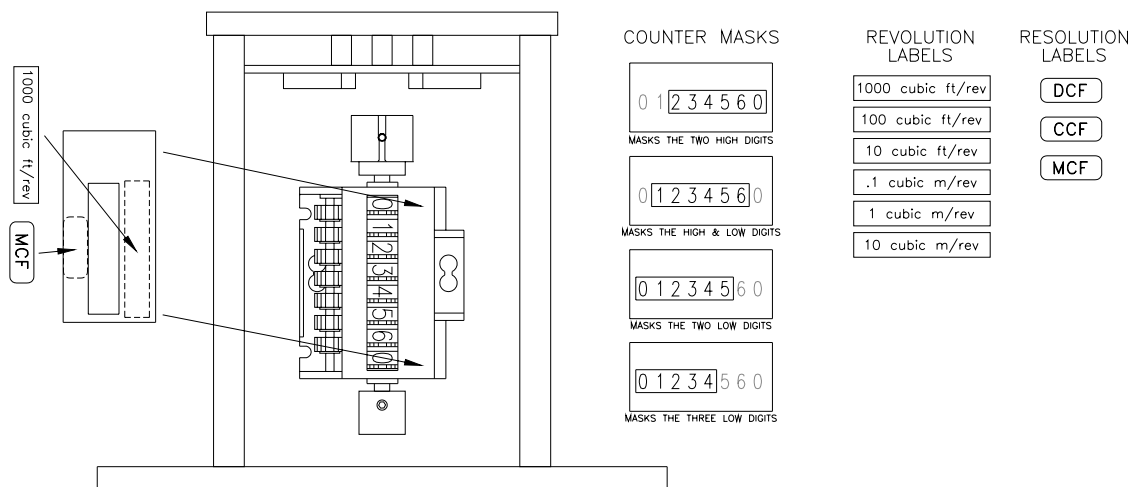

Fig. 13 – Counter Masking Kit Application
3. Determine the desired reading for the mechanical index and mask the index assembly. See Table G-1, and Fig. 13 - Counter Masking, on the following pages.
In the configuration shown in Figure 13, the index counter is positioned so the digits read from top to bottom (clockwise meter rotation as viewed from top). In this case, the desired mask can be selected to hide those digits not needed from either end of the readout. Refer also to Table G-1, above.